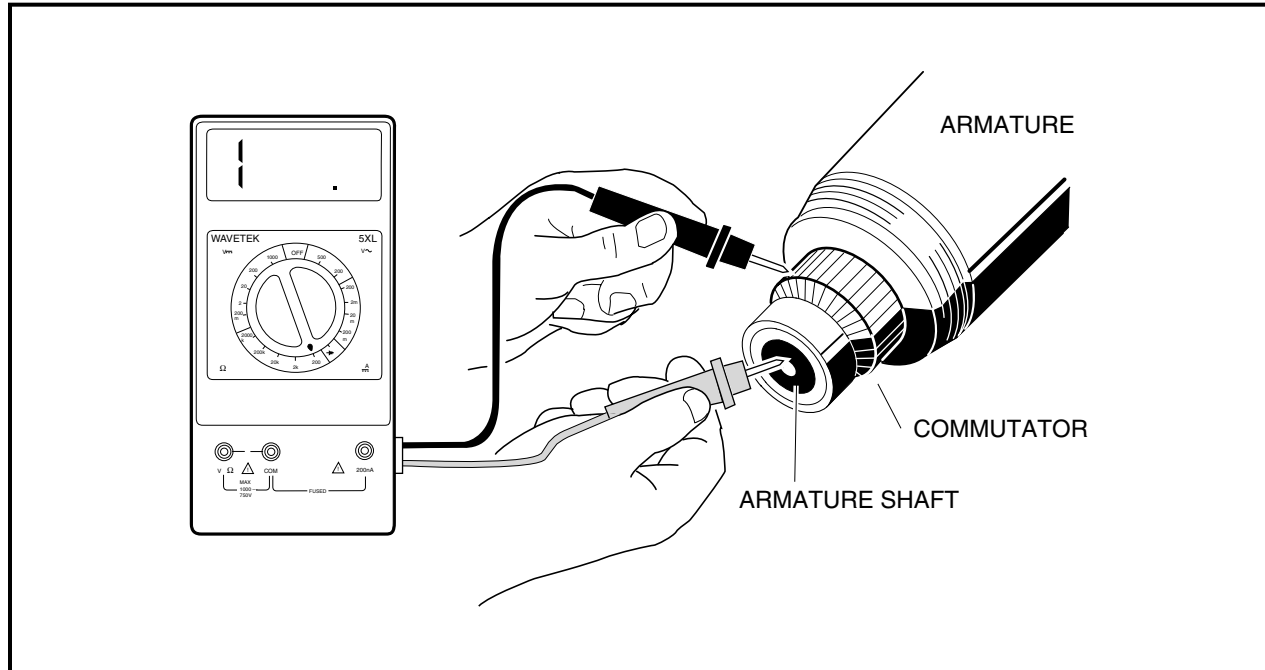

Figure 12-13 Armature Ground Test
- Using a multimeter set on 200 Ω (ohms), place the positive (+) probe on the commutator bars and the negative (–) probe on the armature core. The reading should be no continuity. If the reading is incorrect, replace the armature and the two bearings (**Figure 12-13, Page 12-10**).